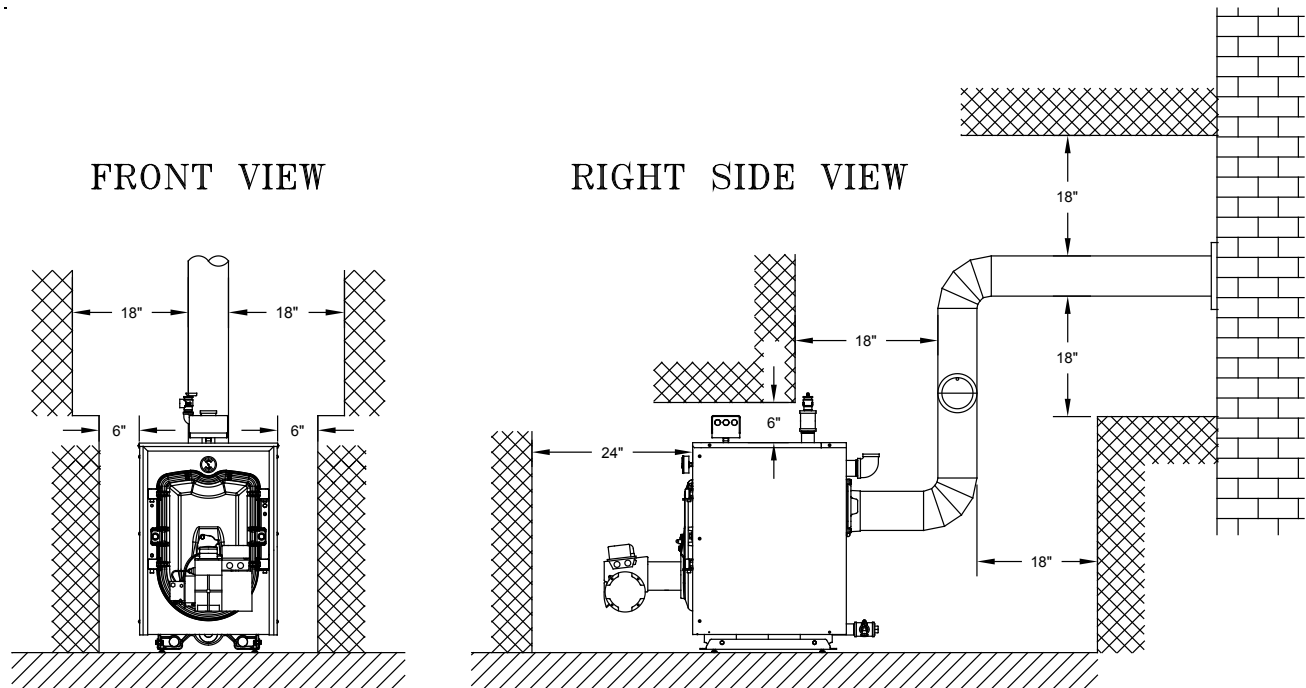

Figure 2-1: Chimney Vent - Minimum Installation Clearances To Combustible Materials (Inches)
- (NOTE:** This dimension will also be controlled by horizontal to vertical to horizontal smokepipe arrangement - **Chimney Vent** (see Figures 2-1 and 6-1).
4. For minimum clearances to combustible materials. See Figure 2-1.